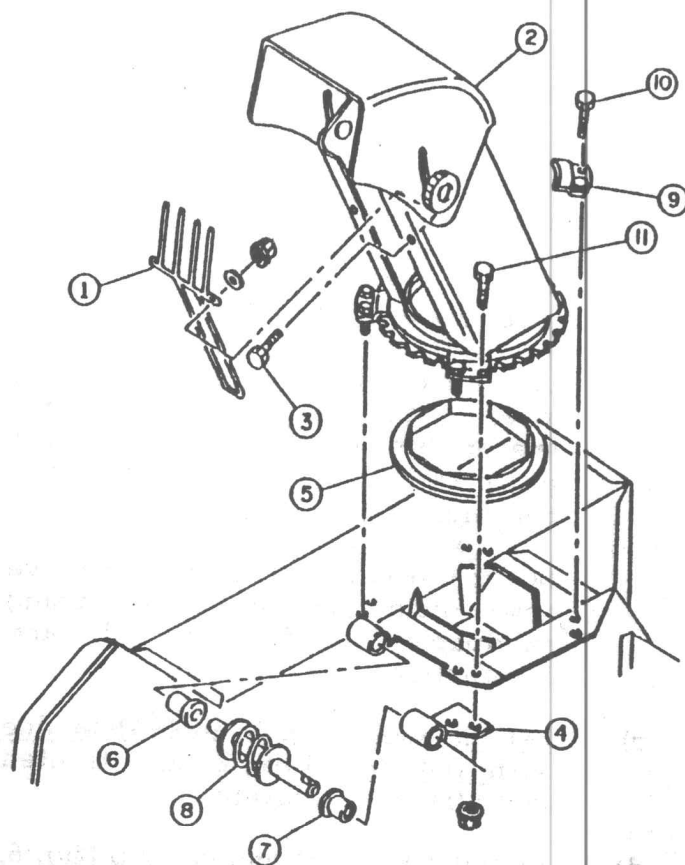

FIGURE 3
- b) Install hand guard (fig. 3, item 1) on chute (item 2) with the top portion inside the chute and the bottom section outside the chute base ring. Place two 1/4 X 3/4" bolt (item 3) with the head on the outside of chute, through the chute then through the hand guard and secure with a flatwasher and nut. Tighten securely.
- c) Place plastic anti-friction insert (fig. 3, item 5) over chute base. Only one position provides a perfect fit.
- d) Insert shortest plastic bushing (fig. 3, item 6) in snowblower tube weldment.
- e) Insert longest plastic bushing (fig. 3, item 7) in bushing support (item 4), grease both ends of rotation worm and place rotation worm (item 8) in bushing.
- f) Install rotation worm assembly through tube weldment with the bushing support (fig. 3, item 4) on the underside of chute base lip.
- g) Install chute (fig. 3, item 2) over plastic insert (item 5) (applying grease in between) and secure with four retaining plates (item 9) using six $1/4 \times 1/2$ " bolts (item 10) and two $1/4 \times 3/4$ " bolts (item 11) to also secure bushing support (item 4). Lock all bolts with nuts. Tighten securely.